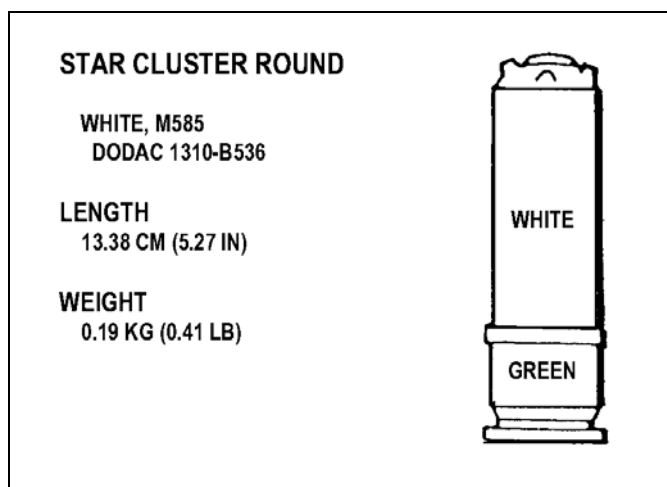

Figure 3-13. White star cluster round.
(4) **White Star Cluster Round.** This round is white impact or bar aluminum alloy with black markings (Figure 3-13). The attached plastic ogive has five raised dots for night identification. The round is used for illumination or signals. It is lighter and more accurate than comparable handheld signal rounds. The individual stars burn for about 7 seconds during free fall.